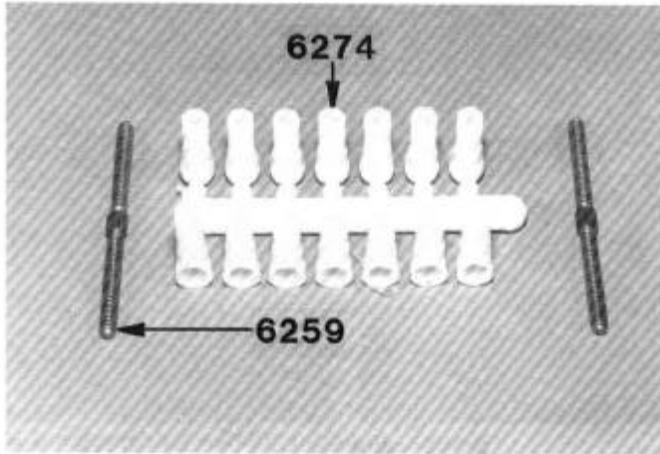

FIG. 19
□ **FIG. 19 & 20**—In Bag #6-2 there are seven threaded turnbuckles #6259. There is one short one, two long ones, and four medium ones. Take two of the medium